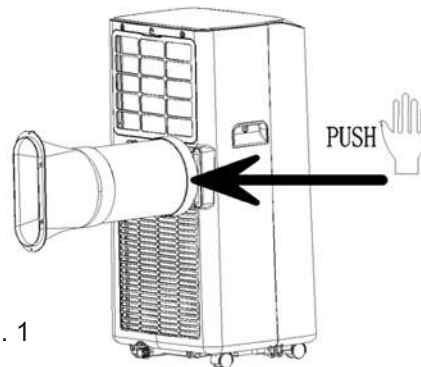

Fig. 1
5.1 Install the heat pipe assembly (as shown in fig.1)
5.1.2 Insert the heat pipe assembly (the end of the exhaust joint) into the back panel vent slot (push to the left) and complete the assembly (as shown in figure 1).